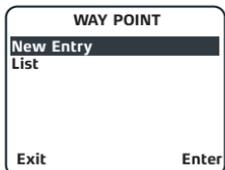

Figure 3
1. Short press the  key. The waypoint page is displayed (fig 3).